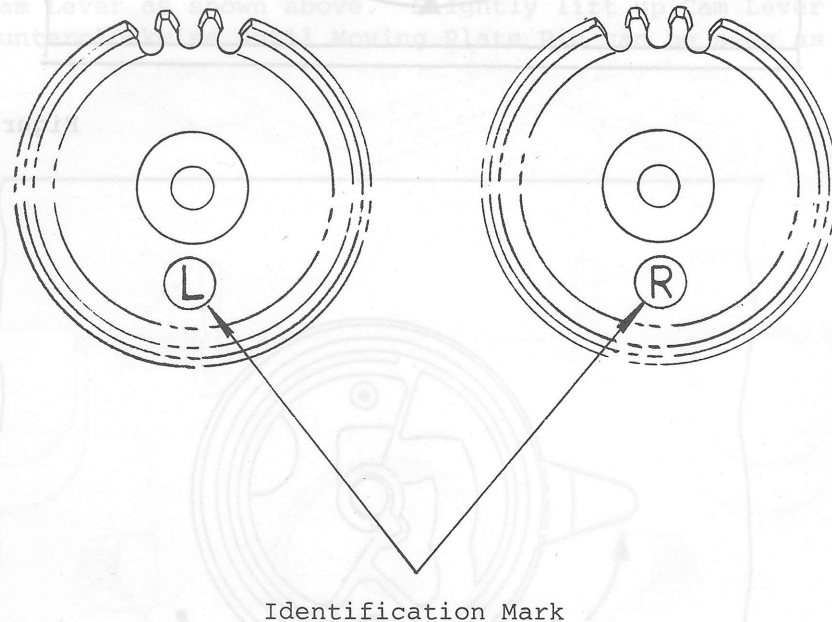

Figure 11.
2. The difference in configuration between Sub Drum Units (or Sub Drum Gears) cannot be identified by appearance. Therefore, each of them is marked with "R" or "L" on its underside for quick recognition as shown in Figure 11.